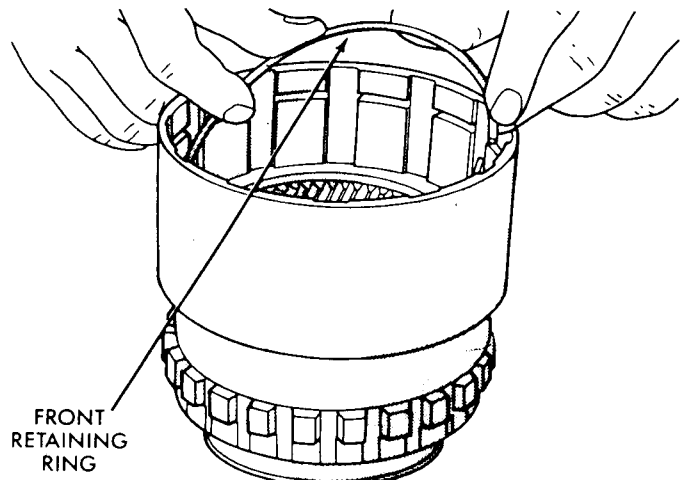

Fig. 2—Install Rear Retaining Ring
(2) Set direct clutch drum face down and align mating marks. Insert annulus lugs into slots inside drum. Install rear retaining ring first. Invert the assembly. Slide drum forward to expose retaining ring groove. Install front wire retaining ring to secure drum (Fig. 2).